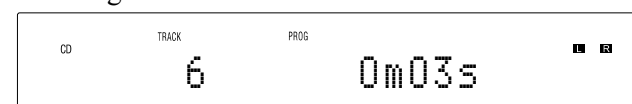

Figure 35
4. To start playback of the just entered program, press the PLAY/PAUSE ►/|| Push-button. Refer to figure 35.